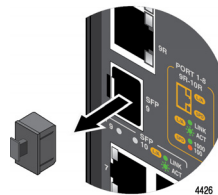

Figure 28. Remove the Dust Plug from an SFP Slot
1. Remove the dust plug from a transceiver slot. Refer to Figure 28.